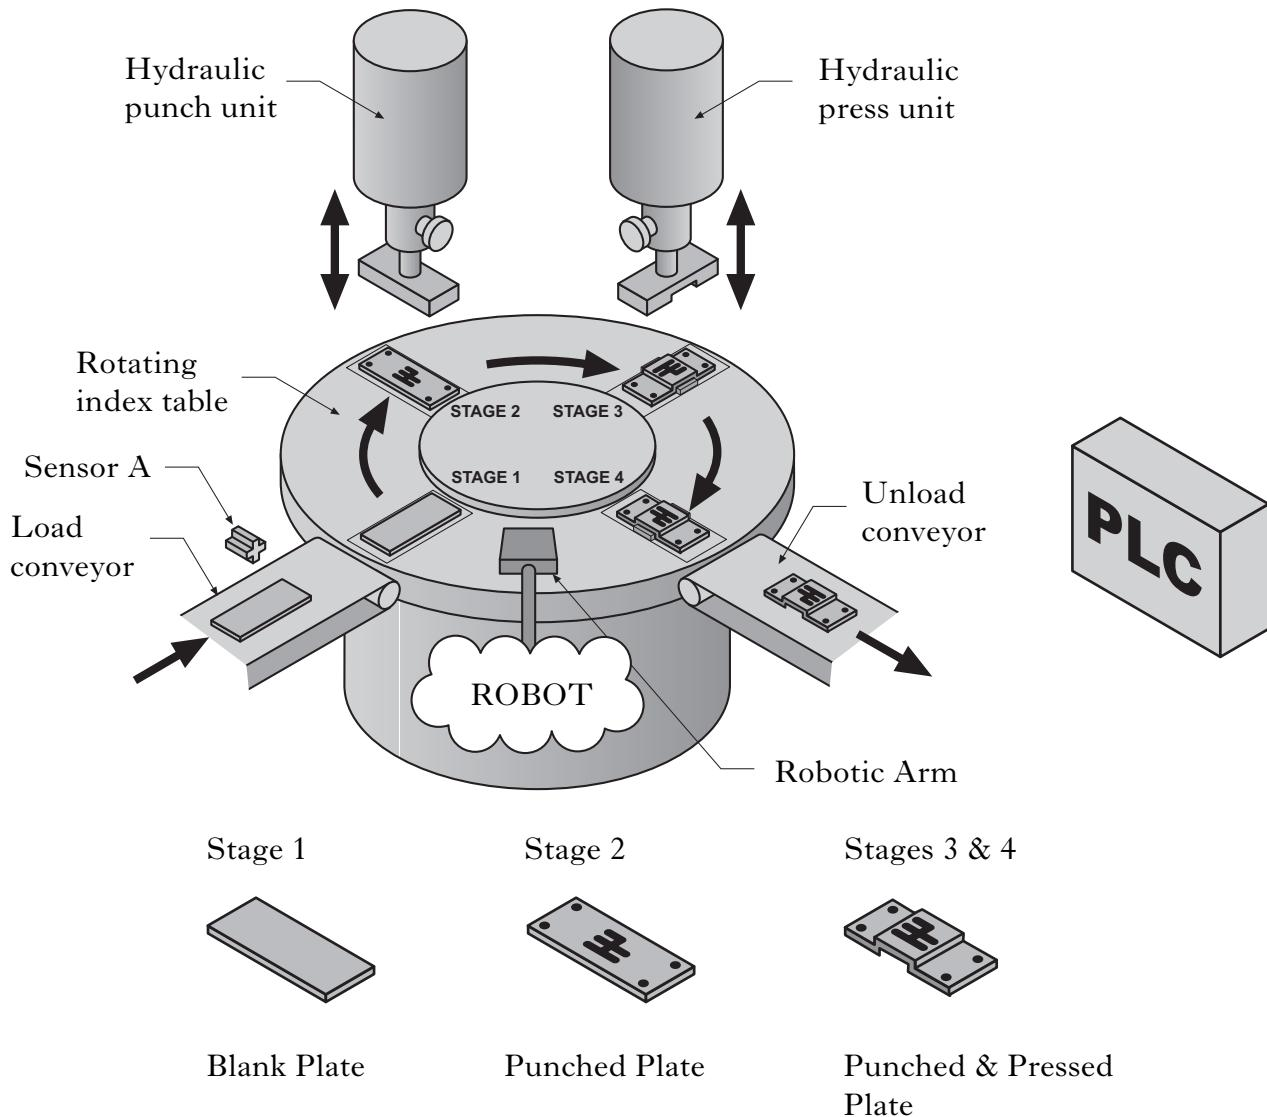

Figure Q11
- 11.** Figure Q11 shows a simplified schematic diagram of an automated workstation that produces sheet steel guide plates.